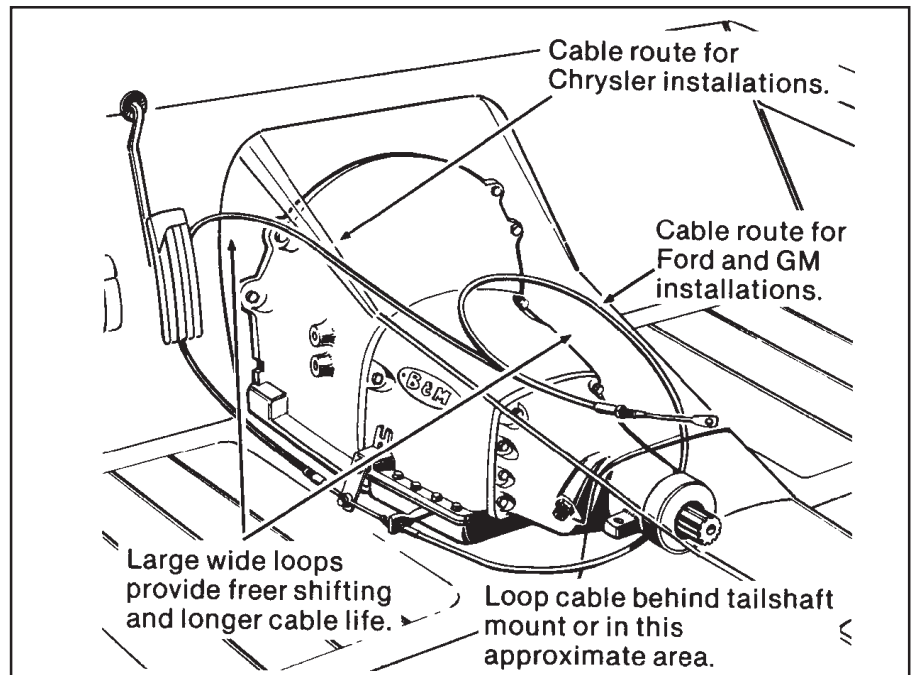

Figure 4
ROUTE THE CABLE AS SHOWN IN FIGURE 4, AVOID SHARP BENDS WHICH WILL KINK AND DAMAGE THE CABLE. Use cable clamps or tie wraps to secure the cable housing to the chassis to avoid contact with hot engine or exhaust system.
STEP 12. Route the shifter cable according to Figure 4. Avoid kinks and sharp bends and route the cable away from hot engine or exhaust parts.
STEP 18. Route the shifter cable according to Figure 4. Avoid kinks and sharp bends and route the cable away from hot engine or exhaust parts.
STEP 23. Route the shifter cable according to Figure 4. Avoid kinks and sharp bends and route the cable away from hot